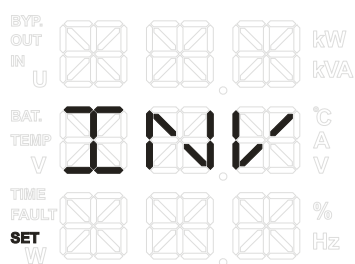

Figure4-6 INV first mode
INV prior setting page: when the UPS has been set to ECO prior mode and it needs to set to in INV prior mode, enter this setting page, the **INV** flickers. If you confirm to select the setting, press **①** (ON) button more than 1s, exit the setting page, the setting succeeds. If you do not confirm to select the setting, 20s later, it will exit the setting page automatically. Corresponding LCD display is as shown in Figure4-6.